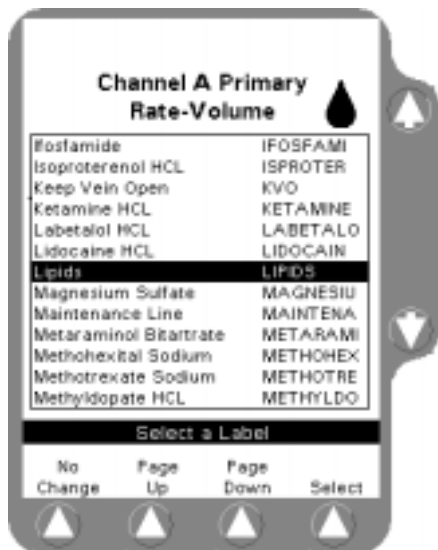

Figure 5-4 Label List
2. From the Programming screen, press the **Label Line** soft key. A list of labels and their abbreviations is displayed as shown in Figure 5-4.
Figure 5-4 shows the label Lipids highlighted from one of the pages of available labels.